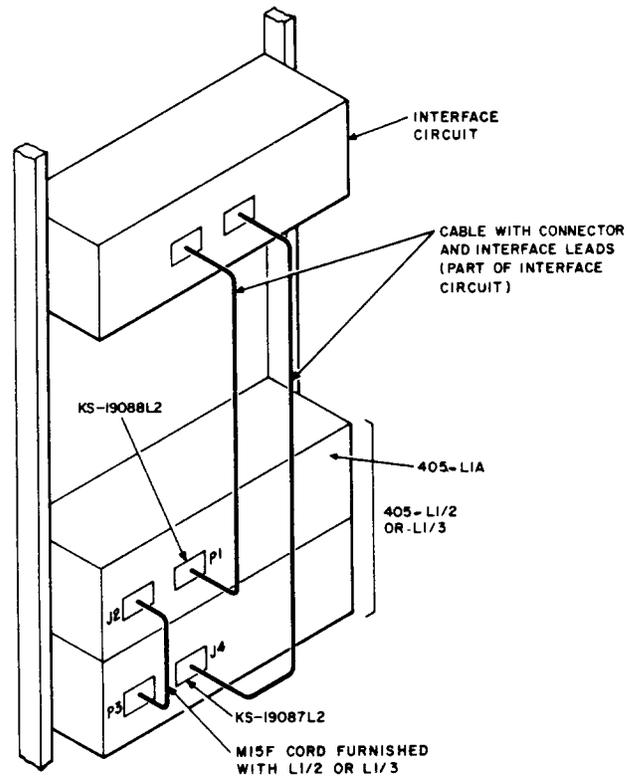

Fig. 1—405-Type Installation
3.01 Figure 1 illustrates a typical 405-type installation with an expansion unit. When the data set is an L1/2 or an L1/3, interconnection between the data set modules (L1 and L2 or L3) is made with an M15F cord which is furnished with the L1/2 and L1/3 units. The two modules have a double size protective cover and are held together with mounting brackets to make them a single unit.